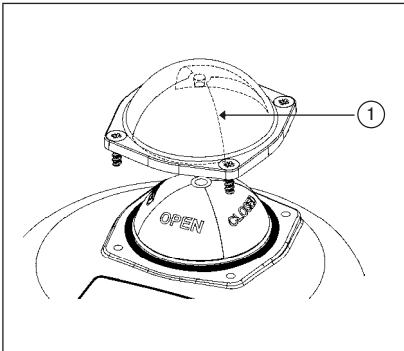

Figure 9: Removing glass hood
- Remove glass hood of the position indicator 1 including the sealing ring by loosening the four fastening screws and remove the glass hood (see “Figure 9”).